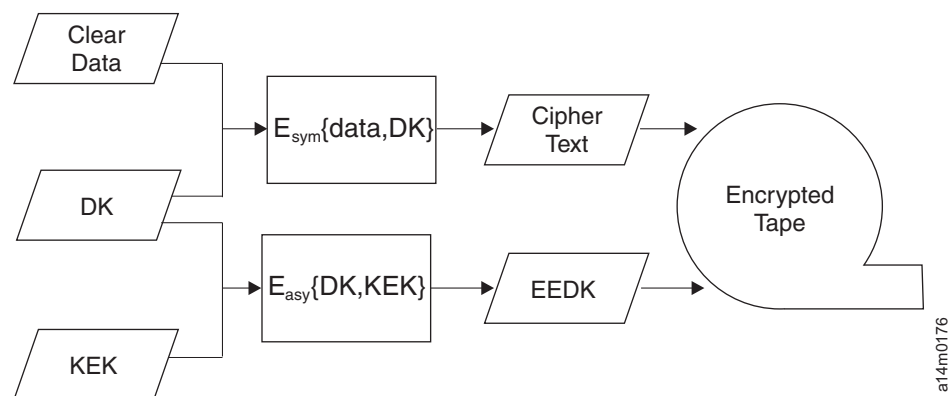

Figure 2: Encryption with both symmetric and asymmetric encryption keys
In system-managed and library-managed tape encryption, unencrypted data (clear text) is sent to the tape drive and converted to ciphertext with a symmetric 256-bit AES Data Key (DK) generated by the encryption key server. The ciphertext is then written to tape. The encryption key server uses a single, unique data key for each 3592 tape cartridge. This data key is also encrypted, or wrapped, by the encryption key server with the public key from an asymmetric Key Encrypting Key (KEK) pair. This process creates an Externally Encrypted Data Key (EEDK). The EEDK is written to the cartridge memory and to three more places on the tape media in the cartridge. The tape cartridge now holds both the encrypted data and the means to decrypt it for anyone that is holding the private part of the KEK pair. Figure 2 on page 7 illustrates this process.